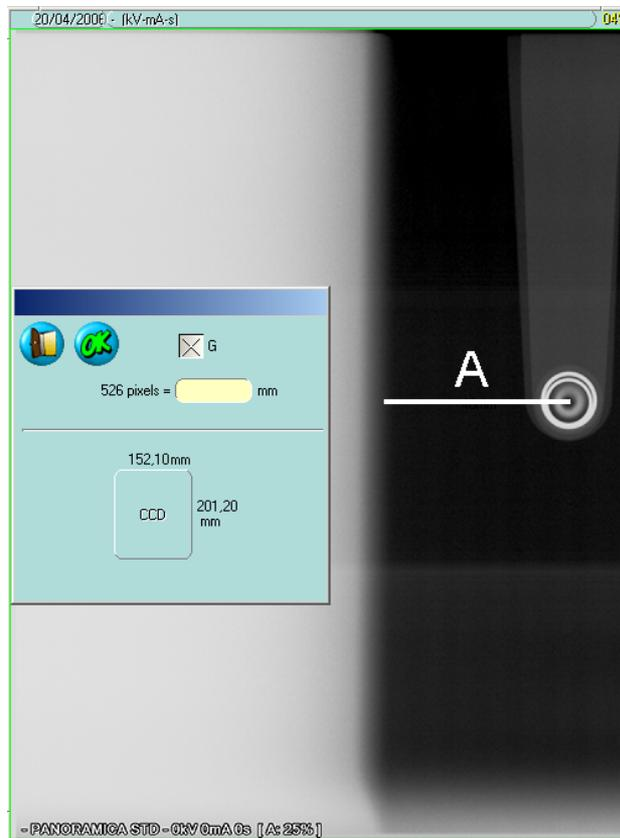

Figure 7-6
7. On the image taken with QuickVision, using the instruction in paragraph 7.1.2, measure the distance "A" (Figure 7-6) between the Soft Tissue Filter (STF) edge and the center of the rings; perform the measure in "mm".